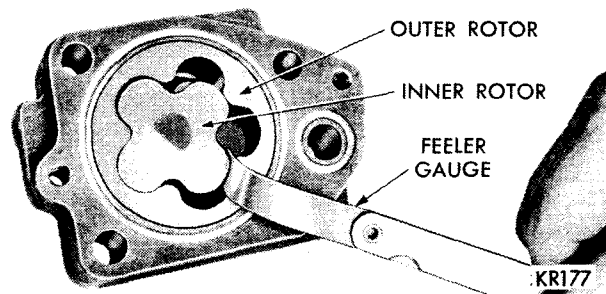

Fig. 48—Measuring Clearance Between Rotors
- (7) If clearance between inner rotor and outer rotor (Fig. 48) is more than .010 inch, replace inner and outer rotors.
- (8) Inspect oil pump relief valve plunger for scoring and for free operation in its bore. Small scores